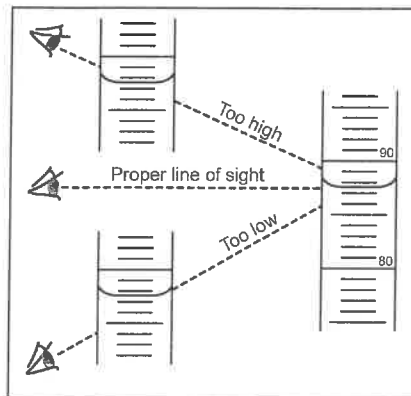

Figure 1: Using a graduate Cylinder
2. Pour the entire unknown sample into the weighed graduate. Read the volume to the nearest 0.1 mL (see Figure 1 for reading the volume in the graduate cylinder). Record this volume and the mass of the graduate with its contents under Trial 1.